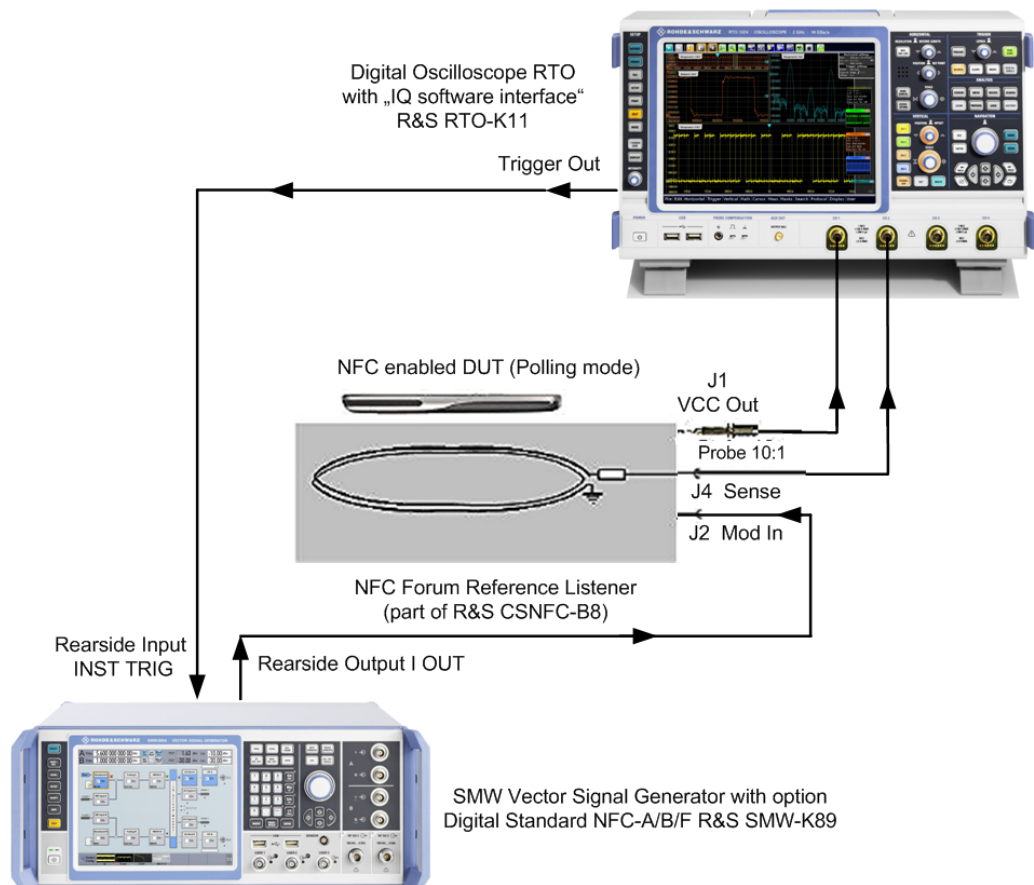

Fig. 6-1: Test setup for an NFC mobile phone in polling mode (simplified schematic).
1. Connect the I OUT connector of the R&S SMx to the XJ2 (MOD IN) connector of the NFC Forum reference listener, see figure 6-1.